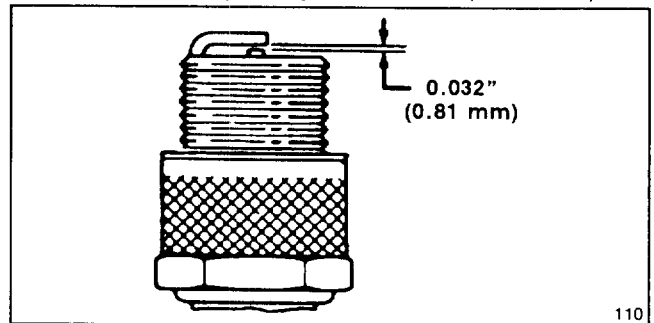

Figure 11
3. Set air gap at 0.032" (0.81 mm) (Fig. 11). Install correctly gapped spark plug and gasket seal. Tighten plug firmly to 15 ft-lb (20.4 N·m).